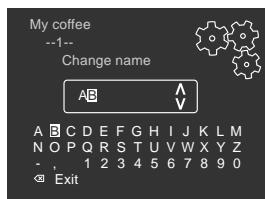

Fig. 18: Changing the name of a user profile
5. Use the arrow buttons to select individual characters and confirm each with "menu/ok" (see Fig. 18).